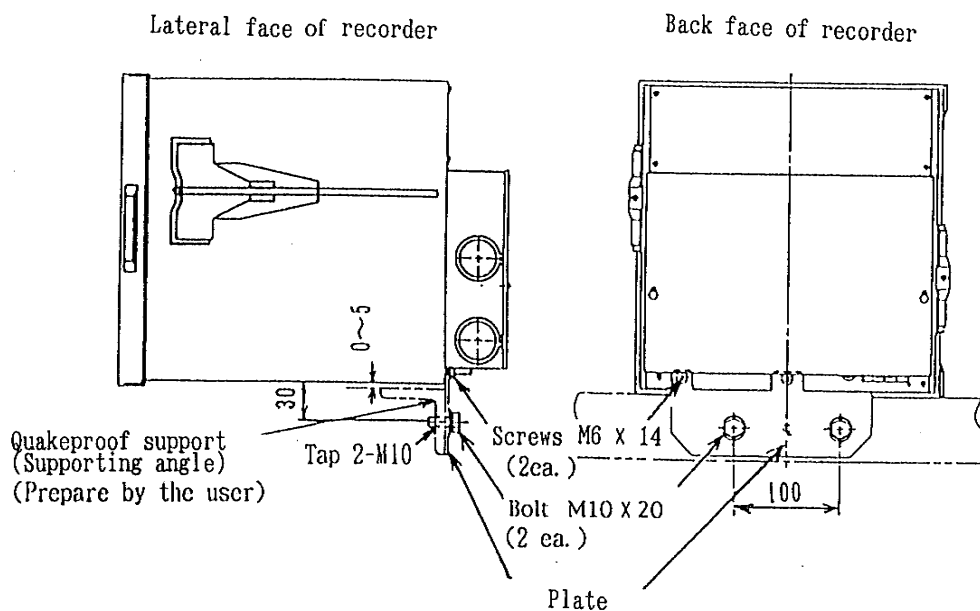

Fig. 4.4 Fixing Rear Part of Case to Panel
(2) The following parts are attached in case of Earthquake-proof specifications.
(3) Fix the rear part of case using the angle (1) and the parts (2) as per the illustration of Figure 4.4.